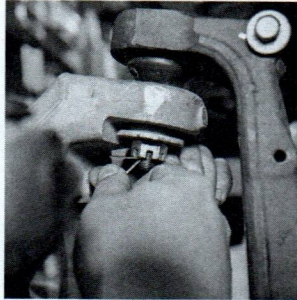

Figure 21. Properly Aligned and Installed Cotter Pins
26. Install the cotter pins. If the castle nut slots do not line up with the cotter pin holes, continue to tighten the castle nuts until they align. **See Figure 21.** Never loosen a castle nut to align the cotter pin. If the cotter pin hole is above the top of the castle nut, this is usually an indication that the knuckle taper has been worn out and the knuckles should be replaced.